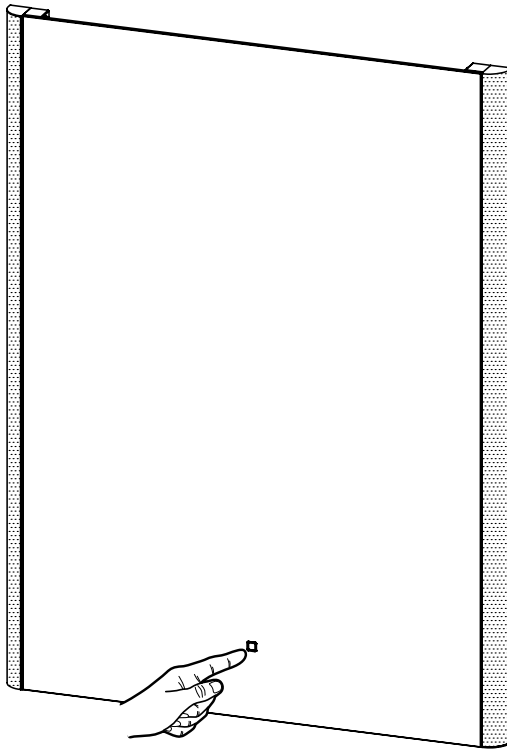

Fig 3. - Operation
1. Press the touch switch on the face of the mirror, *see Fig. 3*.